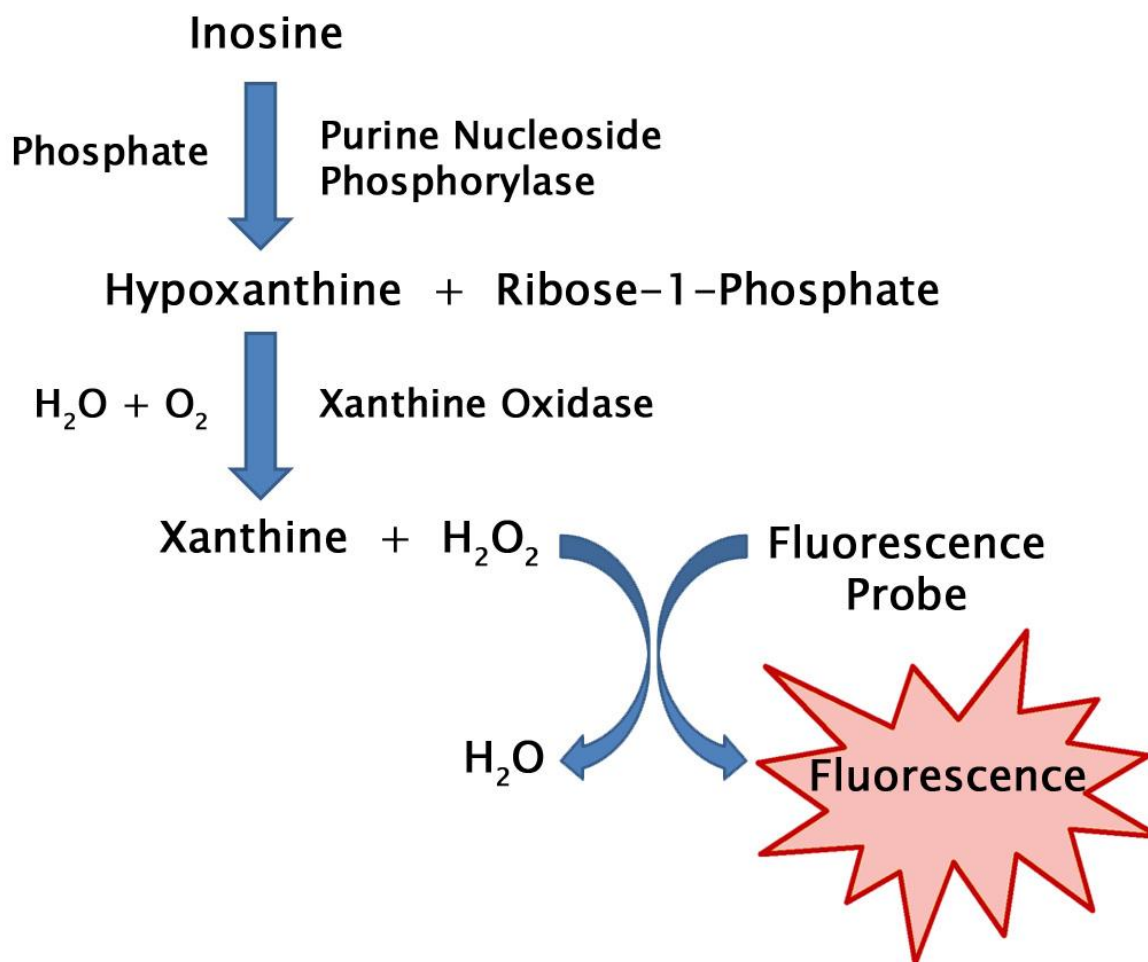

Figure 1. Inosine Assay Principle.
Cell Biolabs' Inosine Assay Kit measures total inosine within biological samples. Inosine is converted into hypoxanthine by purine nucleoside phosphorylase (PNP). Then hypoxanthine is converted to xanthine and hydrogen peroxide by xanthine oxidase (XO). The resulting hydrogen peroxide is then detected with a highly specific fluorometric probe. Horseradish peroxidase catalyzes the reaction between the probe and hydrogen peroxide, which bind in a 1:1 ratio. Samples are compared to a known concentration of inosine standard within the 96-well microtiter plate format. Samples and standards are incubated for 15 minutes and then read with a standard 96-well fluorometric plate reader (Figure 1).